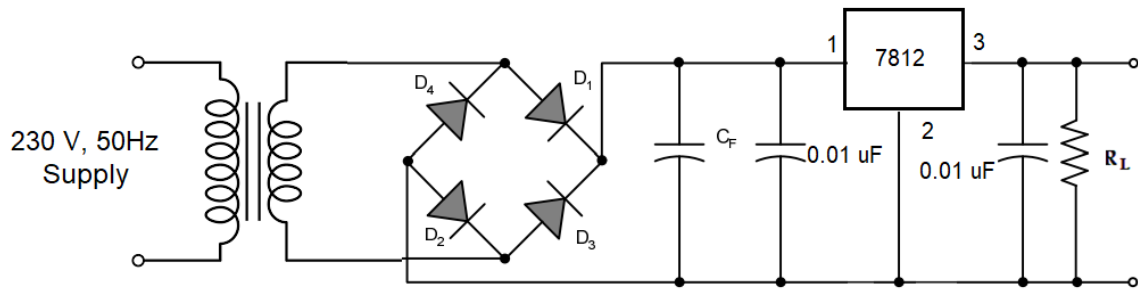

Figure 4: Fixed Power Supply
1. Connect the circuit as shown in Figure 4.